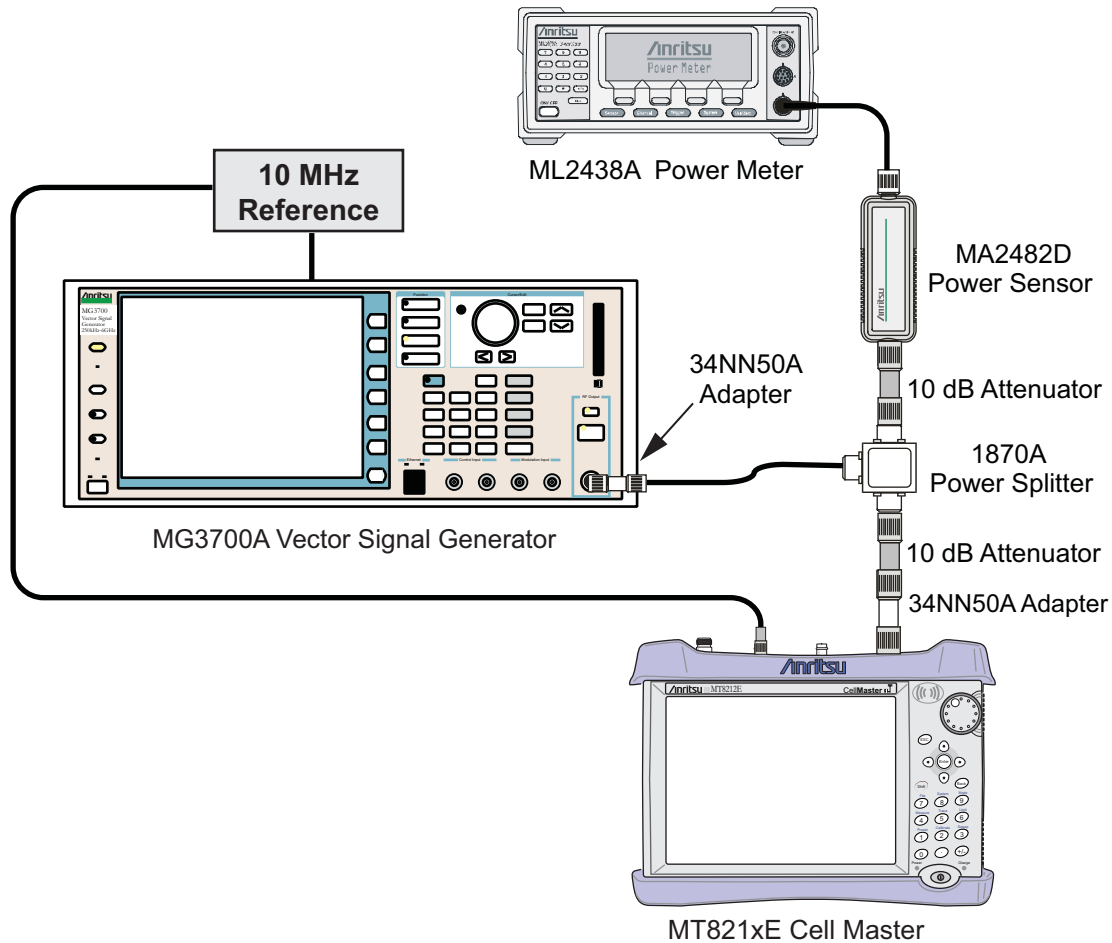

Figure 5-16. LTE Signal Analyzer Option Verification
4. Connect the equipment as shown in Figure 5-16.